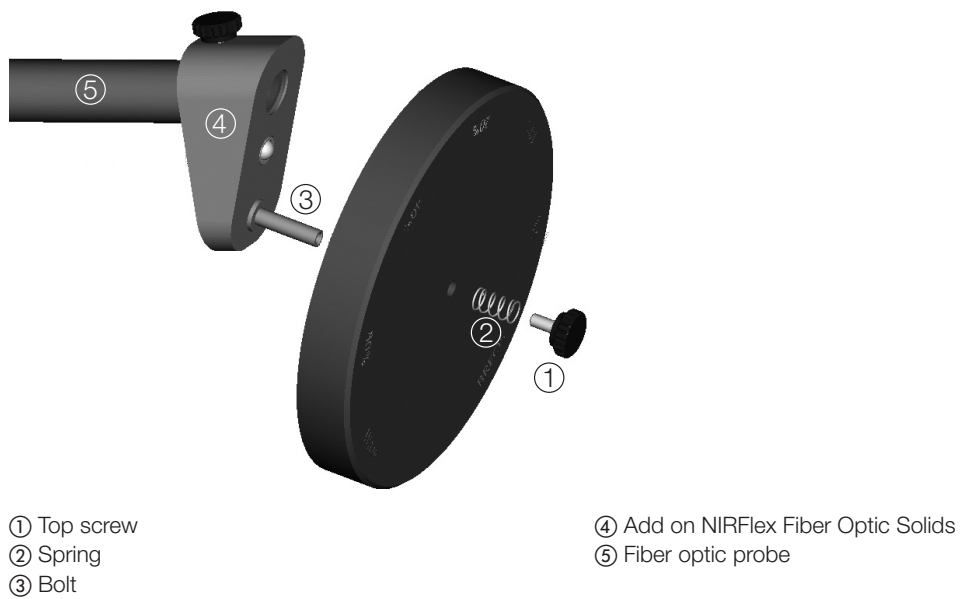

Fig. 6.8: Mounting the standards disk to the add-on NIRFlex Fiber Optic Solids
- Put the spring back and refix the screw, see Fig. 6.8.